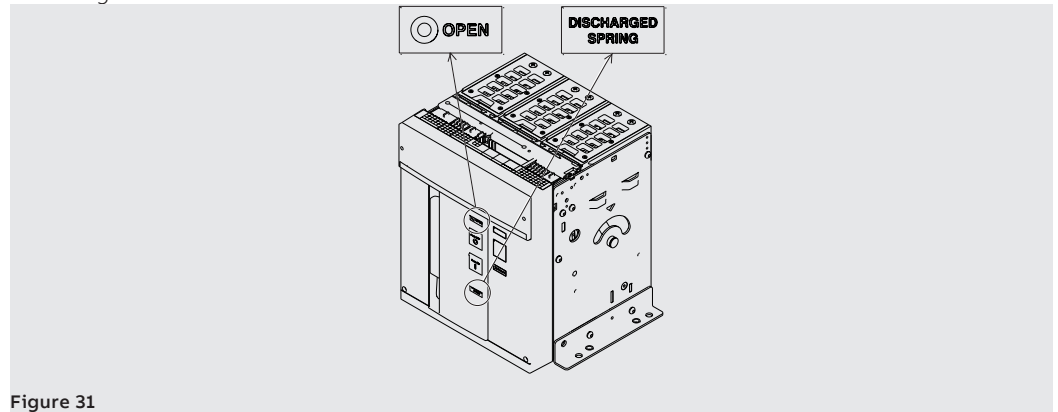

Figure 31
7. Check that the circuit-breaker is open (open / closed indicator "O - OPEN"), and check that the springs are discharged (spring signalling device "white - DISCHARGED SPRING") as indicated in Figure 31.